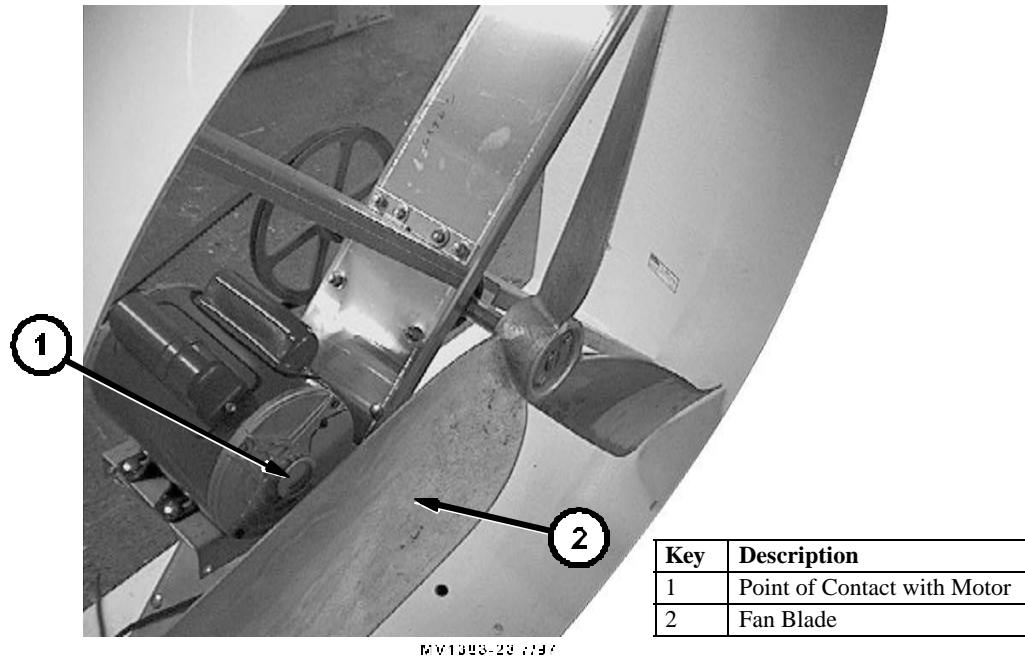

Figure 5. Fan Assembly Installation
3. Rotate Fan Blade to make sure there is adequate distance between the Fan Blade and the back of the Motor. **Key 1 in Figure 5** below shows potential point of contact with Motor. If the Fan Blade does come in contact with motor, do not adjust for Fan Blade beyond the end of the Drive Shaft. If Motor, Fan Blade, and Drive Sheaves cannot be adjusted to allow clearance, selected Motor will not work. Contact CTB, Inc. for alternate Motors.